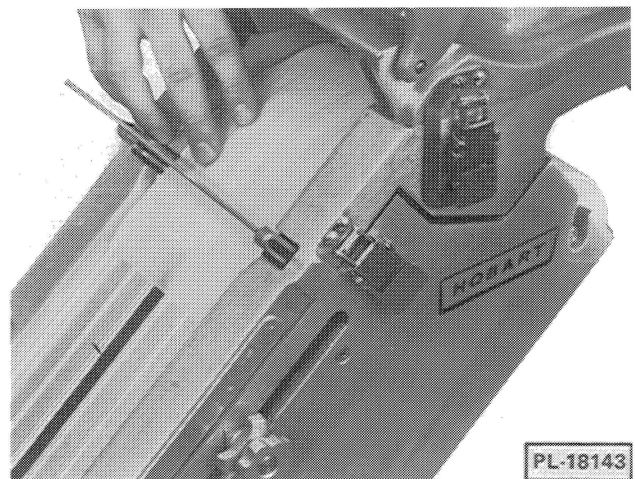

Fig. 7
- Thread paper through slot beneath forming orifice (Fig. 7). Push paper on down chute under knife.